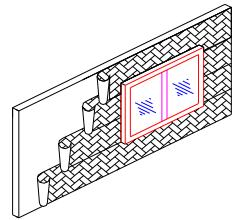

Figure 7
11. Weather resistant building paper should be applied in a weatherboard fashion to complete the installation. (See Fig. 7).